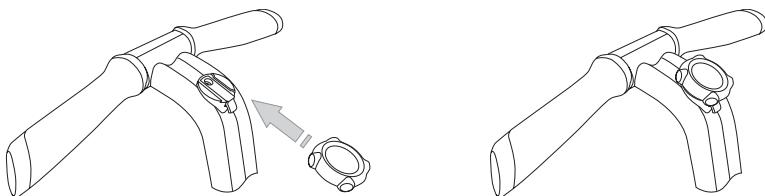

Figure 45. Docking the InfoKey Controller
2. Slide the InfoKey Controller up into the InfoKey Controller Dock as shown in **Figure 45**.